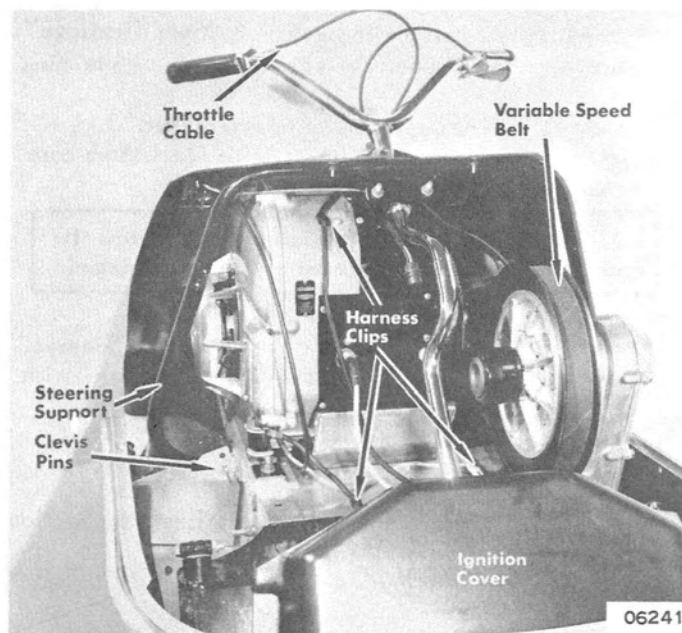

Figure 1.
3. Remove ignition cover. (Figure 1)
- (1) Remove battery.
- (2) Two (2) stator leads (yellow/red) from rectifier.
- (3) Large lead(s) (yellow) from starter motor(s).
5. Remove wiring harness from retaining clip on blower backplate and move harness and switches toward front of vehicle. (Figure 1)
6. Remove wiring harness from 2 retaining clips on forward edge of chassis. (Figure 1)